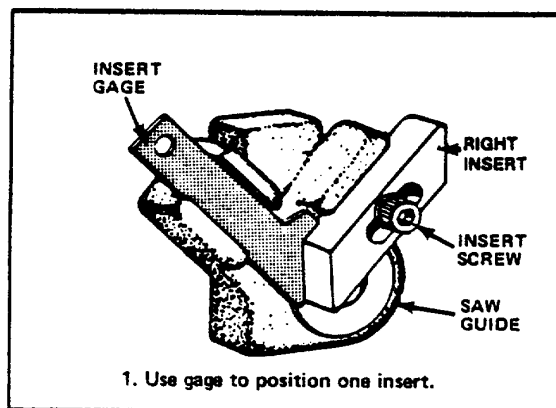

FIG. 7. POSITIONING RIGHT INSERT. UPPER GUIDE BLOCK SHOWN.
- (1) Select guide blocks and inserts set marked for band width. Place right insert in milled slot. Tighten screw lightly so insert will slide in slot and hold its proper position when released. See Fig. 7.
- (2) Select insert gage matching saw band. Place in slot. Adjust insert to fit exactly into gage notched end. Tighten insert screw. See Fig. 7.